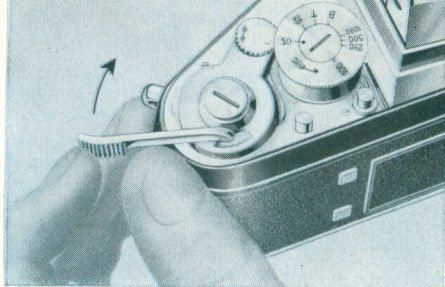

Fig. 5
Shutter winding and film transport with lever (8). This lever has to be turned as far as it will go (fig. 5), it then automatically moves back. Firing is impossible before having turned the lever; film transport can only be done after releasing the shutter. Also at intermediate position of the lever, firing is impossible. Do not force the lever back in its original position, you may damage the mechanism. If the lever (8) should not go back when the camera is unloaded, open camera back (44) and turn film transport sprockets (34) in direction of the film chamber (33), when doing so press the lever carefully. Catch up the lever (8) when turning back with your thumb. During intervals between exposures, the shutter release knob (3) may